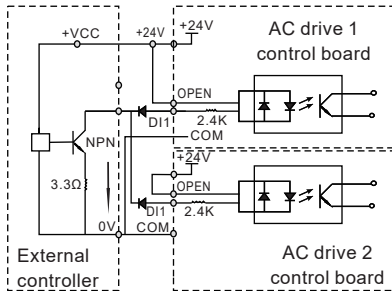

Figure 3-22 DI terminals connected in parallel in SINK mode
- + In this In such wiring mode, the DI terminals of different AC drives cannot be connected in parallel. Otherwise, DI mal-function may result. If parallel connection (different AC drives) is required, connect a diode in series at the DI and the diode needs to satisfy the requirement: $IF > 10mA$, $UF < 1V$ As shown in Figure 3-22.